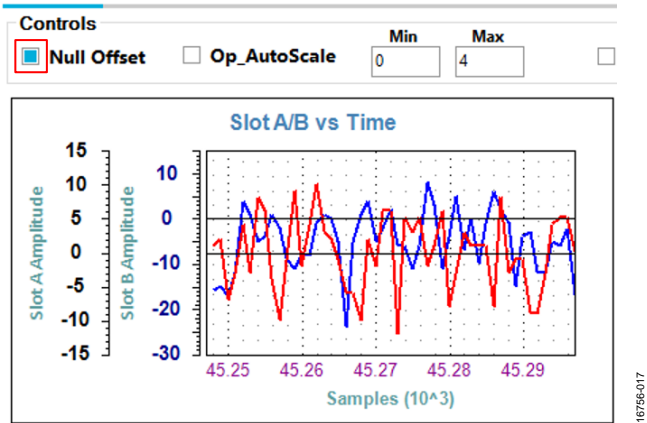

Figure 17. Data View Following Null Offset
6. In the data view, click the **Null Offset** button to set the Time Slot A and Time Slot B raw data values to approximately zero, plus or minus the noise that may be present (see Figure 17).